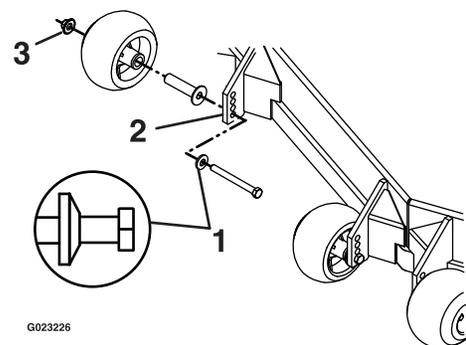

Figure 9
8. Torque the 3/8-16 nyloc nut to 50–55 ft-lb (68-75 N-m) (Figure 9).